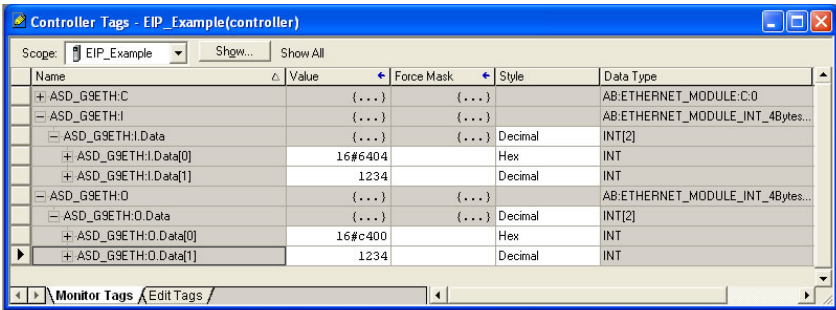

Figure 82: Controller Tags for I/O Access
- 8) By double-clicking "Controller Tags" in the project tree, it is possible to view the newly-added tags. Refer to Figure 82. The ASD_G9ETH:C configuration tag is unused, the ASD_G9ETH:I tag allows viewing of the input data, and the ASD_G9ETH:O tag allows modification of the output data. These tags will be synchronized with the drive at whatever rate was established for the module's RPI.
We can directly interact with these tags in order to control and monitor the drive. In Figure 82, we can see that the first 16-bit word of output data (ASD_G9ETH:O.Data[0]) has been set to a hexadecimal value of 0xC400. Referring back to Figure 36, we can see that the first element of the consumed register configuration references register 1007, which is the drive's option board Command 1 register. A value of 0xC400, therefore, means that the frequency priority, command priority, and run bits have been turned ON.